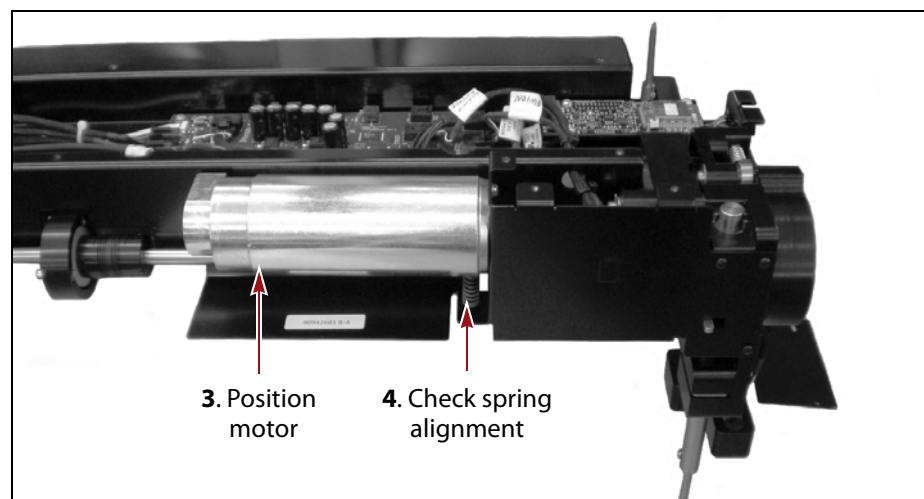

Figure 7 HAX motor spring alignment.
3. Position the motor on top of the spring with the motor gear inserted into its opening (see Figure 7) and the threaded holes aligned with the openings in the VAX Column.